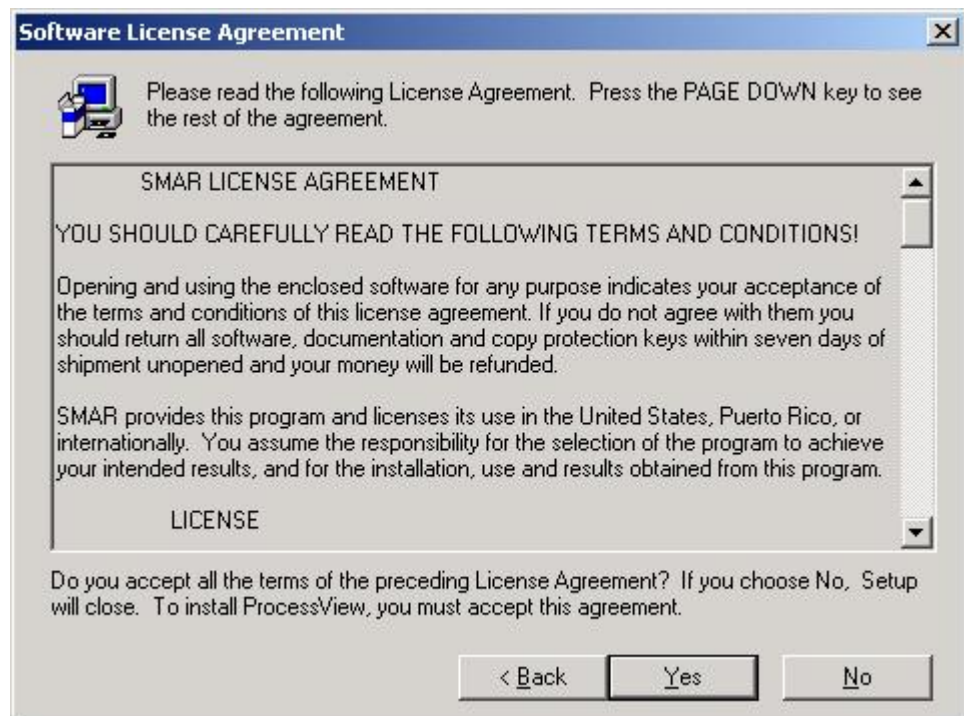

Figure 2.2. Software License Agreement
6. The **Software License Agreement** dialog box appears, as shown in **Figure 2.2**. Read the License Agreement. Click **Yes** if you accept the terms of the agreement.